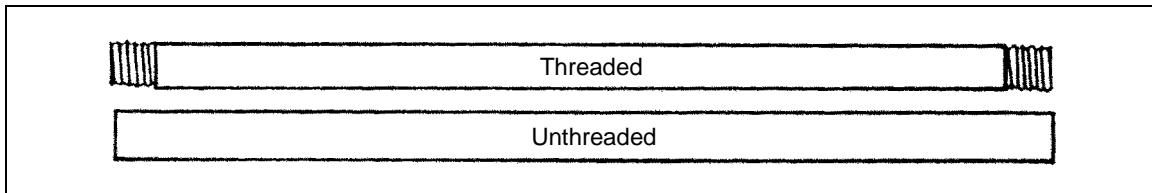

Figure 6-19. Galvanized-Steel/Iron Pipe
6-46. This pipe comes in three strengths: (1) standard, (2) extra strong, and (3) double extra strong. The definitions *Schedule 40* and *Schedule 80* also describe pipe strengths. Schedule 40 standard is most commonly used in plumbing. Pipe diameter sizes (nominal pipe sizes) are 1/8 inch to 12 inches, also referred to as iron-pipe size. The pipe comes in 21-foot lengths, threaded or unthreaded (*Figure 6-19*).